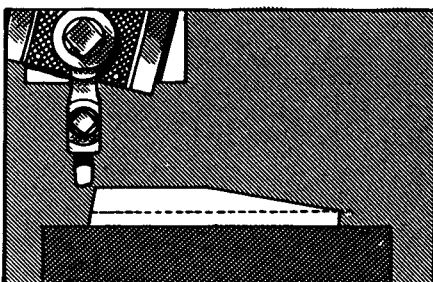

FIG. 375
4. Disengage the feed when the tool has finished the cut (Fig. 375).